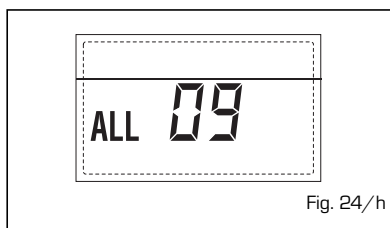

Fig. 24/h
**- ANOMALIA Sonda AUXILIAR "ALL 10" (fig. 24/l)**